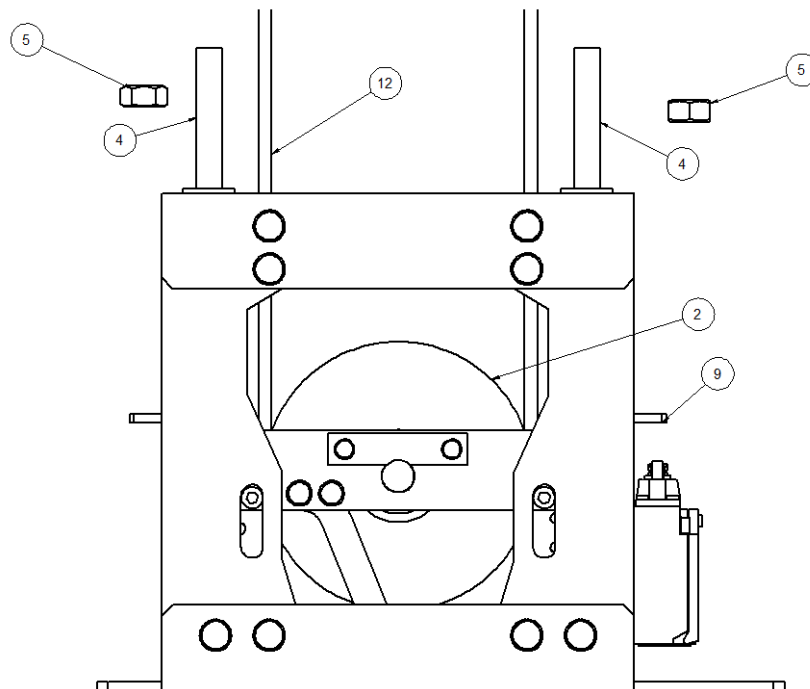

Figure 19: Position after tightening the rope
To tighten the rope, unthread the spring-compressing nuts (5). To do so, it is recommended to unthread both nuts almost at the same time. That is to say, alternate the unthreading process of each nut so that both rope-tensing springs (3) become released at the same time, the pulley (2) uniformly lowers and the rope (12) becomes tightened. As the nuts (5) are being unthreaded, the governor's rope (12) becomes tightened. Unthread the nuts (5) until the springs are completely released. The M12 nuts should be removed as shown in the Figure 19.